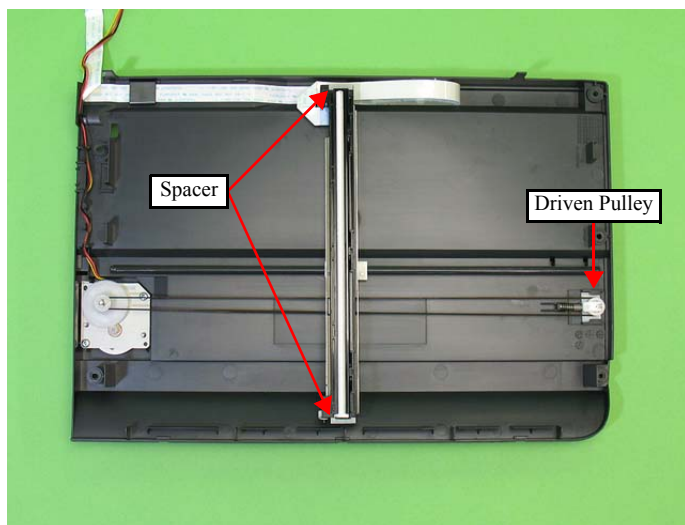
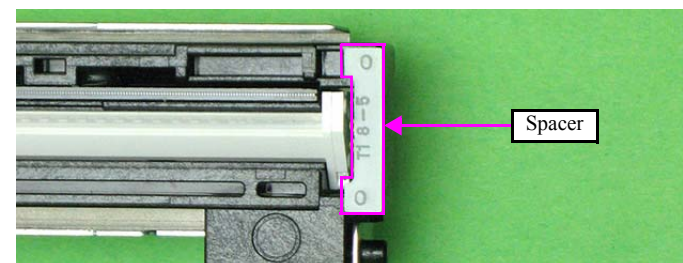

Figure 4-105. Installing the Spacer or the Driven Pulley
Figure 4-113. Replacing the Spacers
If the Spacer or the Driven Pulley comes off when disassembling the Scanner Unit, make sure to assemble the part referring to Fig.4-105 and Fig.4-113.
When assembling the Upper Scanner Housing, confirm that the Spacer is attached correctly. (See Fig.4-105 and Fig.4-113.)
- When installing the spacers, be sure to place them with the cutout facing inward. (See Fig.4-113.)